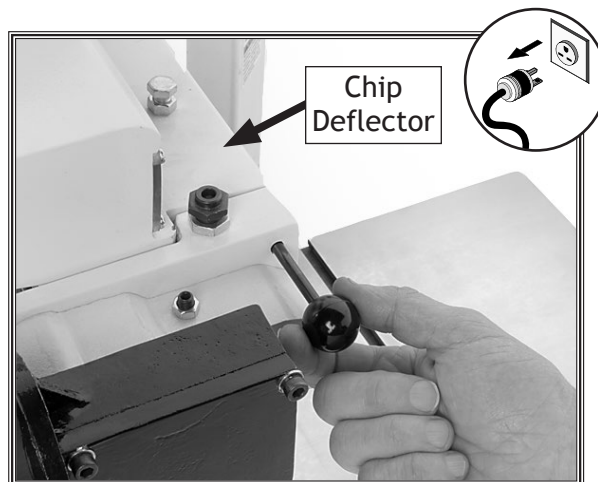

Figure 22. Removing chip deflector retaining pin.
2. Pull the pin shown in **Figure 22**, and remove the chip deflector.